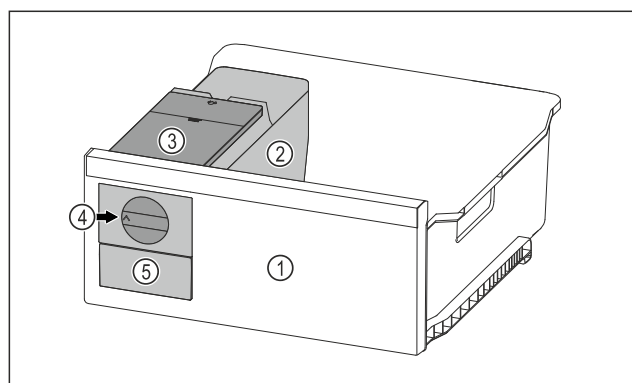

Fig. 66 Example illustration
- Turn the rotary knob Fig. 66 (4) clockwise as far as it will go.
- ▷ Ice cubes fall from the ice cube tray into the ice cube drawer Fig. 66 (5).